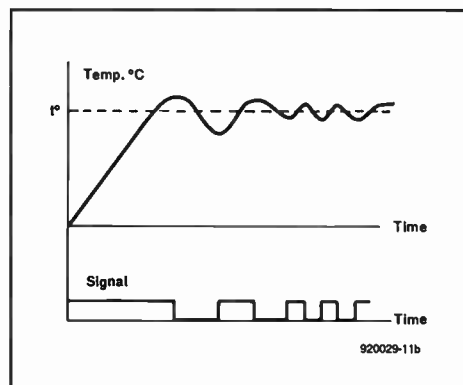

Fig. 1b. Proportional control.
- **Proportional control.** With this, the heater is switched ON and OFF in a series of pulses, PWM signals, supplying less heat to the system as it approaches the set temperature. The actual temperature varies by 1–4 °C from the set point as shown in Fig. 1b. This tolerance is called *offset* or *droop*. Typical applications include ovens, annealing processes and seal processing packing machinery.